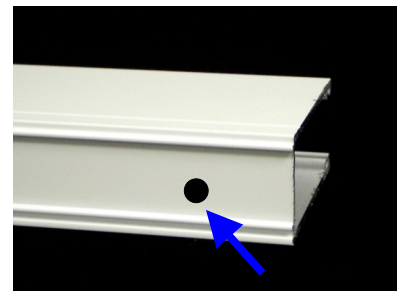

Figure 24 Side Channel Drill Point
- Place holes about 1" from each end (Figure 24) plus one near the center.